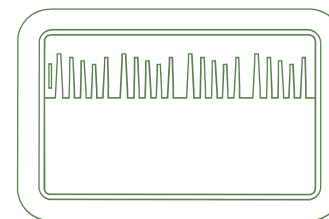

Figure 1
- 1) Place the shelf in the liquid nitrogen box with a little force to secure it and keep it level (as shown in Figure 1).